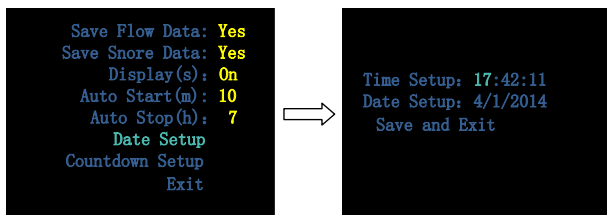

Figure 1-12 "Date Setup" interface
- **Date Setup**, allowing users to set time and date according to their needs. Select "Save and Exit" to exit the "Date Setup" interface, as shown in Figure 1-12.